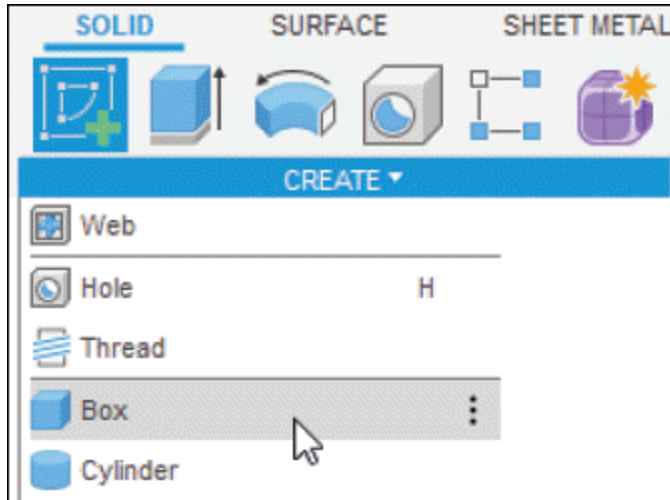

Figure-59. Box tool
- Click on **Box** tool in **CREATE** drop-down from **Toolbar**; refer to Figure-59. You will be asked to select the plane for creating the sketch for box.